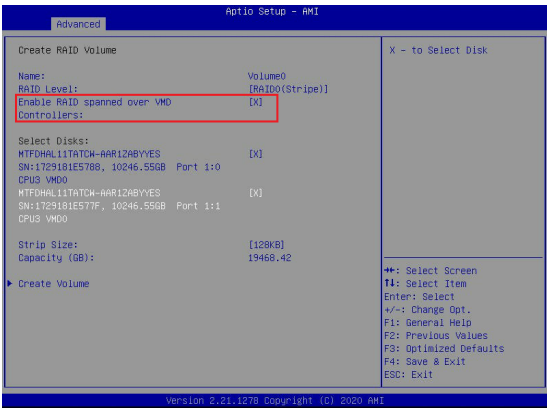

Figure 6-4. Created Volume *with* enabling RAID spanned over VMD Controller
8. Switch to **Advanced > Intel(R) Virtual RAID on CPU > All Intel VMD Controllers > Create RAID Volume**.
11. If cross-controller RAID is required, select **Enable RAID spanned over VMD Controller** as shown in Figure 6-4.